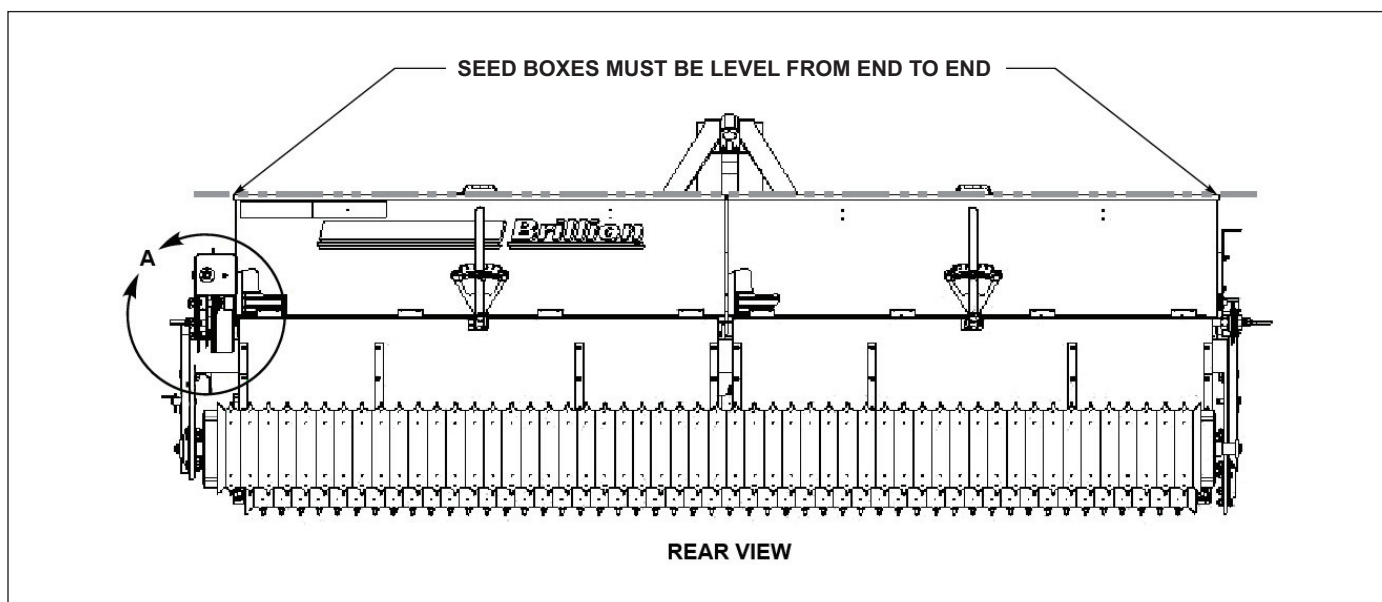

Figure 5-19: Seed Box Level and Straight
- Check that Seed Boxes are level and straight from end to end. Loosen and adjust Seed Boxes from the center and right hand end brackets if necessary. It may also be necessary to make an adjustment of the Left Hand Seed Box on the Transmission. **See Figure 5-19.**